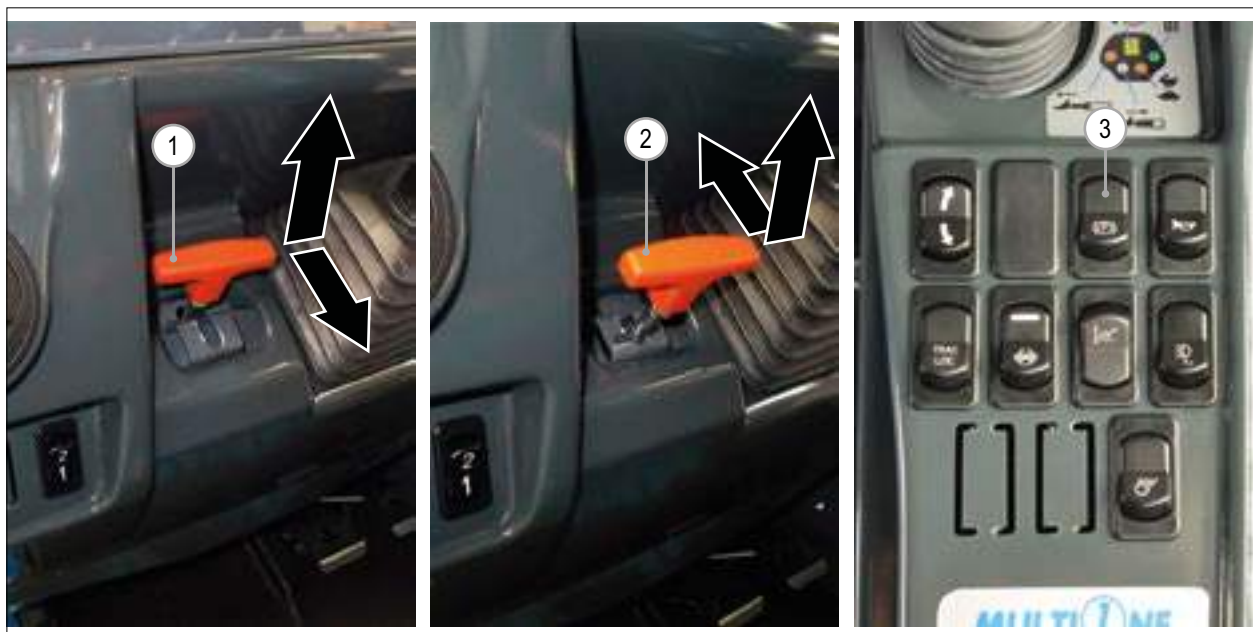

FIG. 28
- 1) To insert the parking brake lift up and pull back the lever (**FIG. 28 - Ref. 1**).
- 2) To disengage the parking brake lift up and push forward the lever (**FIG. 28 - Ref. 2**).
- 2) Press the parking switch (**FIG. 28 - Ref. 3**), the light  turn on.